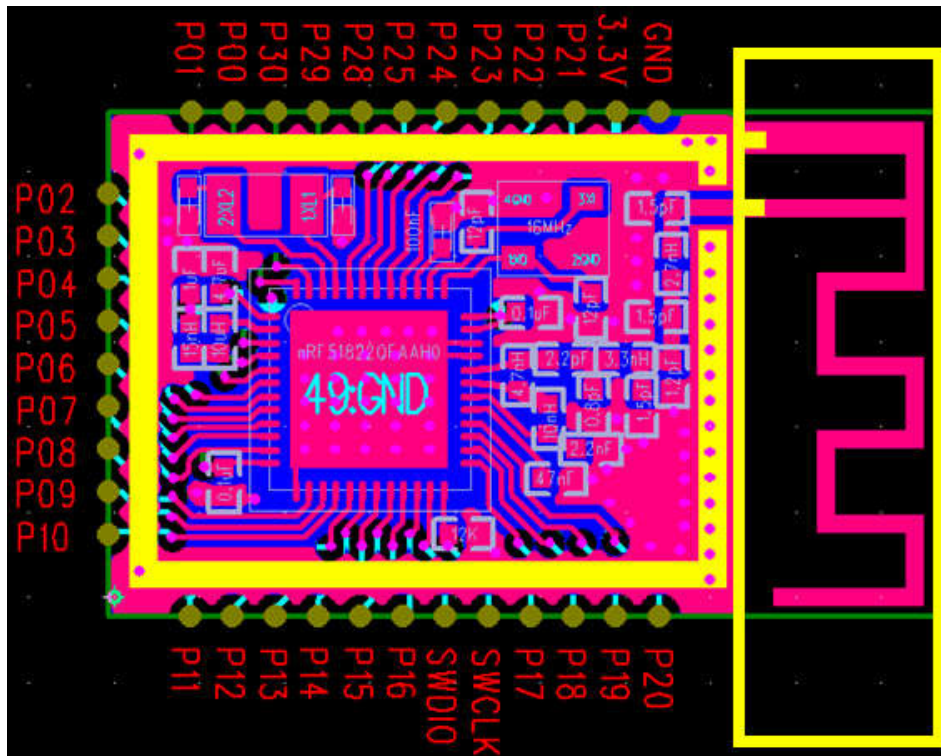

Figure 4
Such as RF-BM-N16-B1DIC naming rules as shown in figure 4, including the module of RAM capacity 16 KB, with 32.768 KHz crystal oscillator, the FCC ID belongs to Defond, and with IC certification ID.
Figure 4 module naming rules, for example
- 3、 It is best to hollow out the green boxes position in figure 4, to ensure its S11 affects is very small.